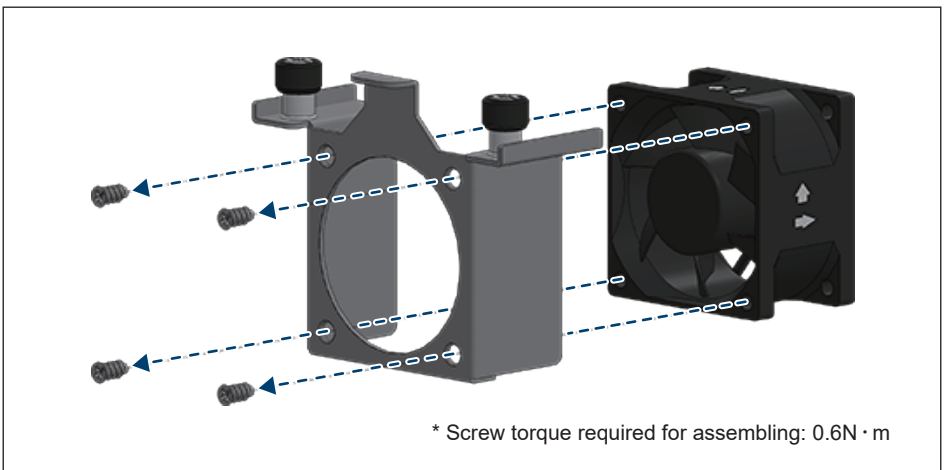

Figure 5-23: Replace with a new fan
- (5) Clean assembly or replace with a new fan. (shown in **Figure 5-23**)
- (6) Reassemble using a tightening torque of 17.7 lbf-in.